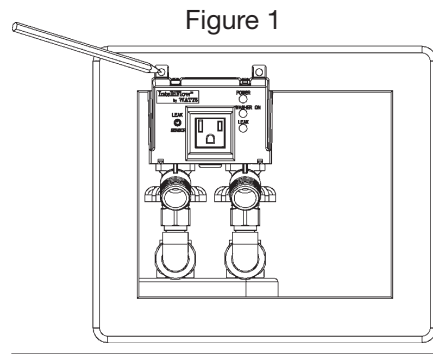

Figure 1
4. Use the A2C-M1 as a template (Figure 1) and mark the location for the two wall anchor holes. Using a 1/4" drill bit, drill two holes at these marks. Insert wall anchors and remove screws.